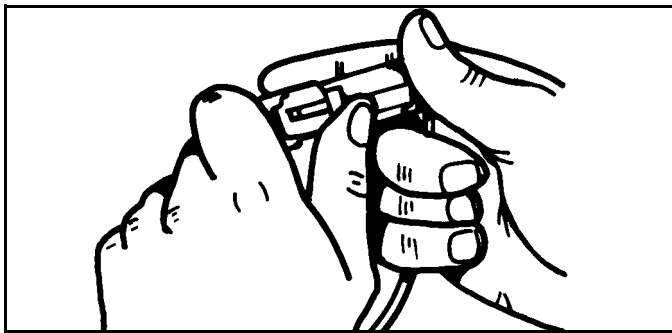

Figure 3-5
1. Open connector body. (See Figure 3-5)